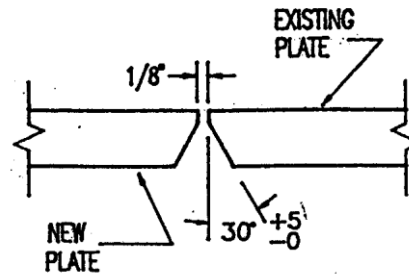

Figure 1B
2. Bevel hot plate and new *original thickness* plate 30° for flush installation (Fig. 1B).